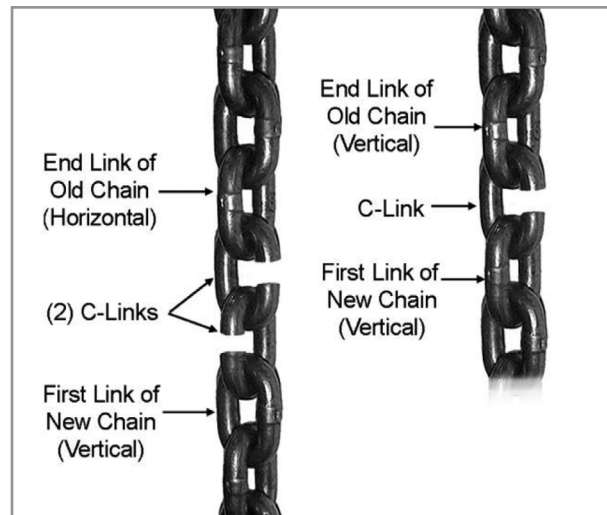

Figure 18
4. Using a C-link(s), connect the new chain to the old chain. If the end link of the old chain is horizontal, use two C-links. If the end link of the old chain is vertical, use one C-link See Figure 18. Using the correct number of C-links will properly orient the chain and ensure that the first link on the load side end is a vertical link.